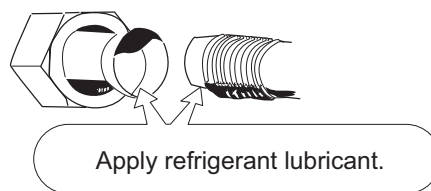

Fig. 1-29
- (1) Apply a sealing cap or water-proof tape to prevent dust or water from entering the tubes before they are used.
- (2) Be sure to apply refrigerant lubricant (ether oil) to the inside of the flare nut before making piping connections. This is effective for reducing gas leaks. (Fig. 1-29)